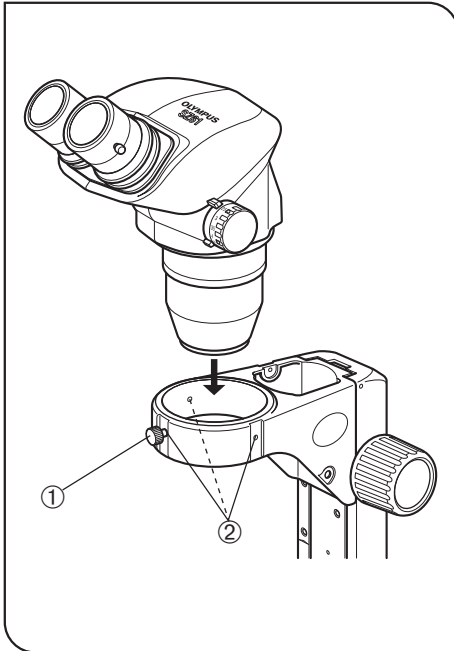

Fig. 13
### 1 Installing the Microscope Body (Fig. 13)
(Fig. 13)
- Loosen the body clamping knob ① and insert the microscope body gently.
- Ⓞ The body clamping knob ① can be attached to any of the three positions ② around the arm. After installation, attach the knob to a position so that the knob does not come in the way of the light source, etc.
- Ⓞ If you always perform observation from the side of the focus adjustment knobs, the microscope body can be installed in the opposite orientation to that shown in Fig. 13 (at the 180° rotated position).